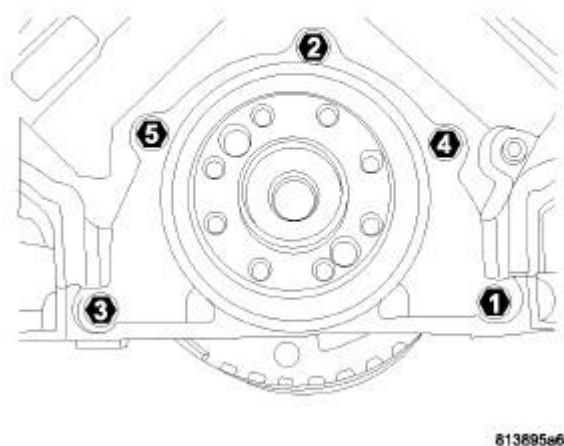

Fig. 186: REAR SEAL RETAINER TORQUE SEQUENCE
4. Using the sequence shown in **Fig. 186**, install the crankshaft rear oil seal retainer mounting bolts and tighten to 15 N.m (11 ft. lbs.).